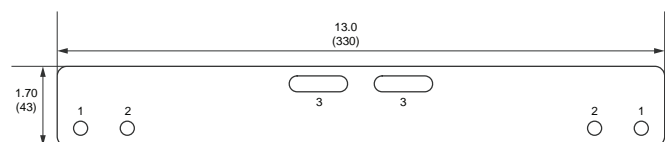

Figure 3. Hole Location Table & Dimension Drawing: Inches (mm)
- b. Refer to Figure 3 for the location of the holes on the plates for vertical pipe mounting.